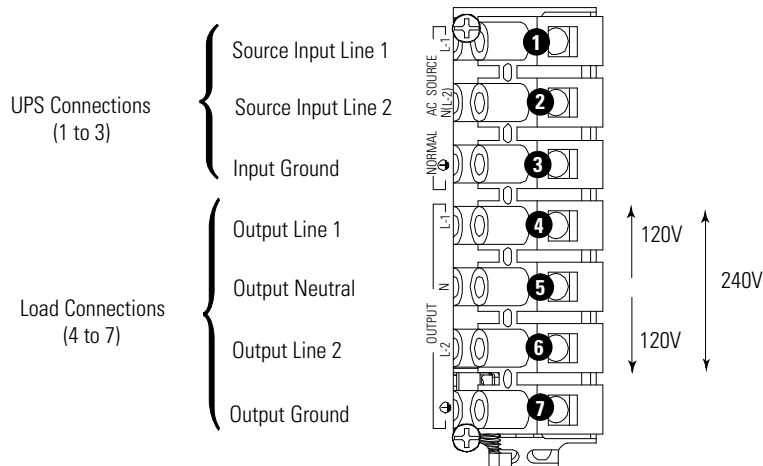

Figure 10. 9XPPDM2 I/O Terminal Block
9. On the 9PXPDM2 terminal block, wire the UPS connections (terminals 1–3) and attach the cable gland to the panel (see Figure 10 and Table 4).